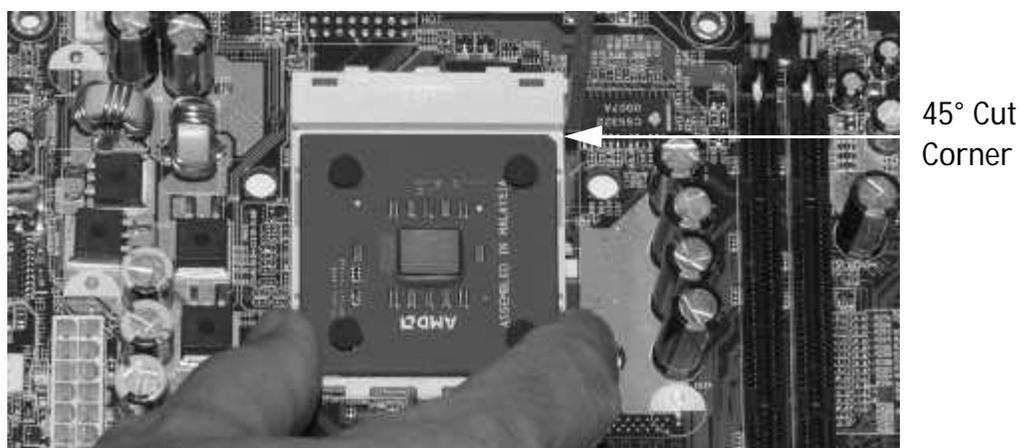

Figure 4. Placing the Processor in the Socket
4. Figure 4 shows the processor dropping into the socket. Notice how the corner located near the release lever pivot is the 45° cut corner. This is verification that the processor has been installed properly.